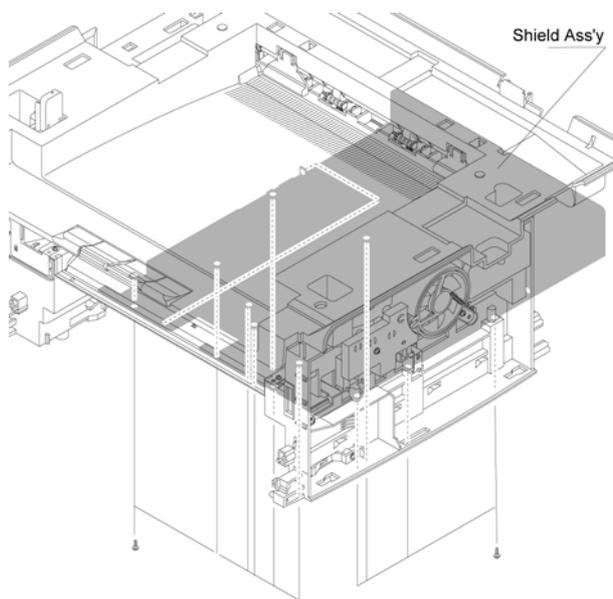

Figure 1
2. Remove 11 screws, Figure 1.